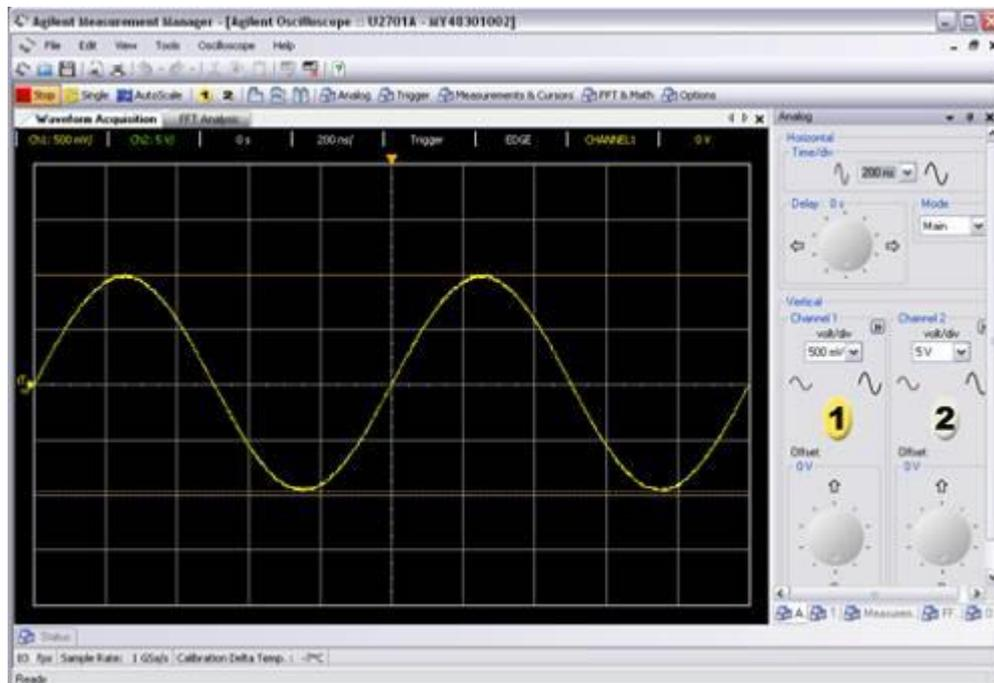

Figure D-7 – Graphical User Interface of the Keysight Measurement Manager (Oscilloscope)
5. Figure D-7 shows the general graphical user interface of the Keysight Modular Oscilloscope on the Keysight Measurement Manager.